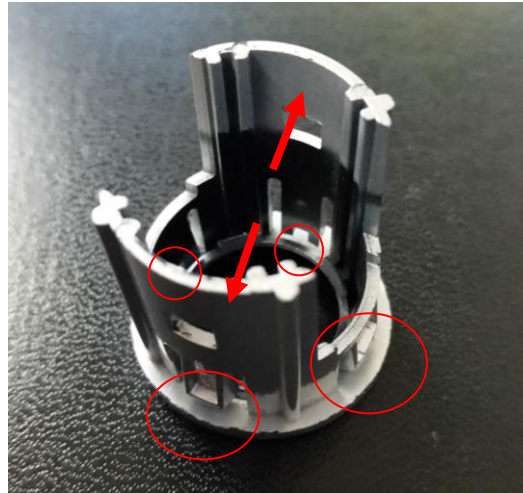

Figure 10
- J. Remove the sensors and sensor housings from your stock bumper. The sensors are removed by pressing outward on the tabs of the sensor housing (Figure 10, red arrows) and pulling away from the bumper. The sensor housing is then removed by pressing the four clips circled in red and pushing through the front of the bumper.